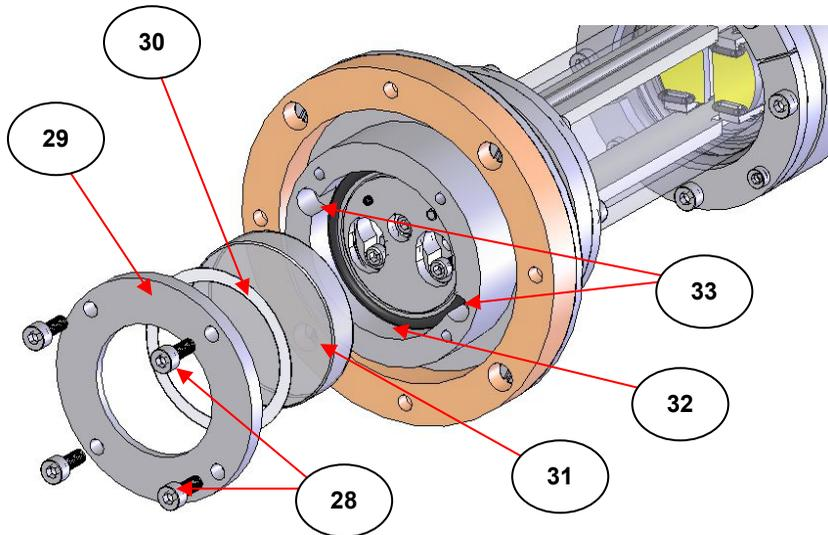
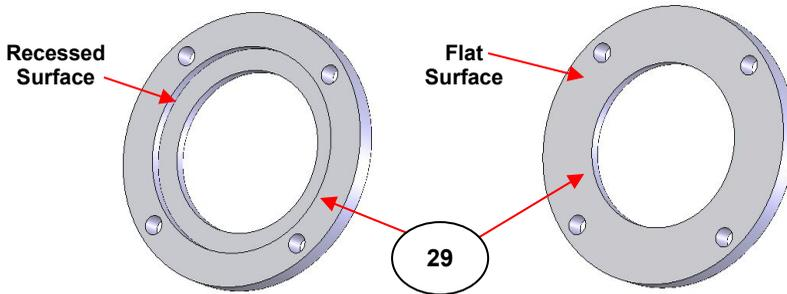

Fig 17. Window Assembly of Parts Separated at the Base of the Cyclone™ C2 Gas Cell
Fig 18. Cyclone™ C2 Window Flange Clamp Plate
With the top gas cell assembly of parts separated from the optical unit (1) access can be gained to the single window assembly at the base of the C2 gas cell. (See Fig 17.)
The window clamp plate (29) for the C2 size gas cell has two different surfaces. (See Fig 18.) One side is recessed and the other side is flat. In the construction of the window assembly of parts seen at Fig 17, the flat surface for the clamp plate (29) is seen to be on the outermost side. This means that for this shown sequence of assembly of parts, the **recessed** surface of the clamp plate (29) is in contact with the PTFE washer (30) for clamping and sealing a thicker KBr (**K**) window (31) into position. If a thinner CaF2 (**C**) or ZnSe (**Z**) window (31) is being clamped into position, then the **flat** surface of the clamp plate (29) must be in contact with the PTFE gasket (30).